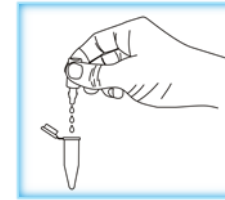

Figure 2
- Add three drops of developing solution to sample vial (Figure 2).